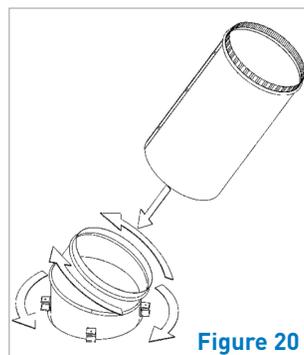

Figure 20
- The end of the last tube (which has been cut to length if necessary) should now be inserted over the crimped end of the bottom elbow. Final adjustment of the elbows can now be made by rotating the sections if necessary in order to align the last intermediate tube and bottom elbow (Figure 20).